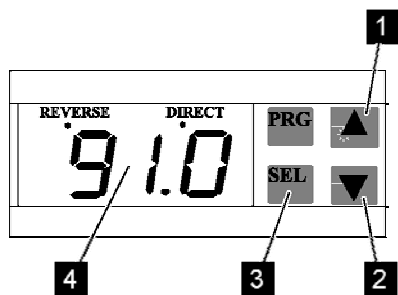

Fig. 33
1. Turn the main switch (1) clockwise to the "I/ON" position.
3. Press the "SEL" key (3) and hold it for five seconds. The display (4) will indicate the actual room temperature difference (ST1).
4. Release the "SEL" key (3).
- "▲-key" (Fig. 33/1) will increase the room temperature difference
- "▼-key" (Fig. 33/2) will decrease the room temperature difference.
6. Press the "SEL" key (Fig. 33/3). The adjusted room temperature difference will be saved and the display (Fig. 33/4) will show the parameter "ST2" which is not used (not used as a standard feature).
7. Press the "SEL" key (Fig. 33/3) again to return to the standard operating mode.